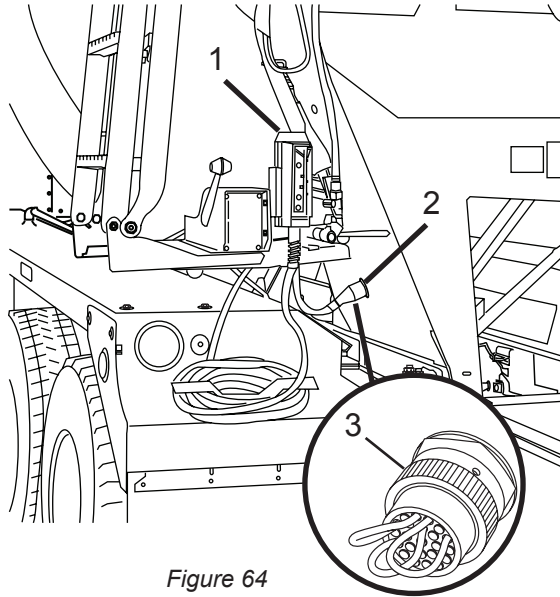

Figure 64
If the optional rear pendant (Figure 64, Item 1) is lost, or becomes damaged or faulty, a jumper plug (Figure 64, Item 3) must be installed in the rear pendant socket to allow operation of control functions from the cab control box.
2. Disconnect the rear pendant harness connector (Figure 64, Item 2) from the rear pedestal.
3. Install a jumper plug (Figure 64, Item 3) into the rear pendant harness connector. Purchase the jumper plug from www.streetsmartparts.com or by calling Revolution Parts at (855) 202-6491.